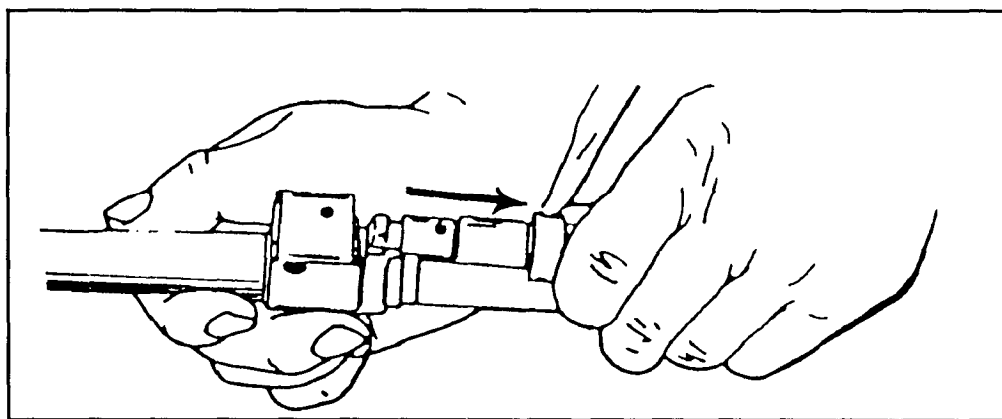

Figure 2-7. Removing the gas regulator.
(4) To remove the gas regulator (Figure 2-7), separate it from the gas block.